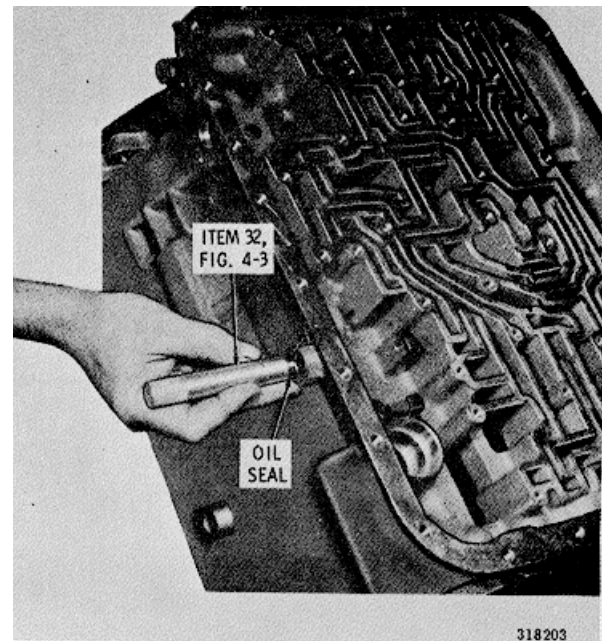

Fig. 6-62. Installing manual shaft oil seal
(1) Coat the inside diameter of oil seal 42 (A, foldout 14) with a seal lubricant, and the outside diameter with a nonhardening sealant. Install the oil seal, lip first, into the transmission housing (Fig. 6-62). Use installer 32 (Fig. 4-3) to properly locate the seal in the housing. The seal must clear the chamfer in the housing bore.